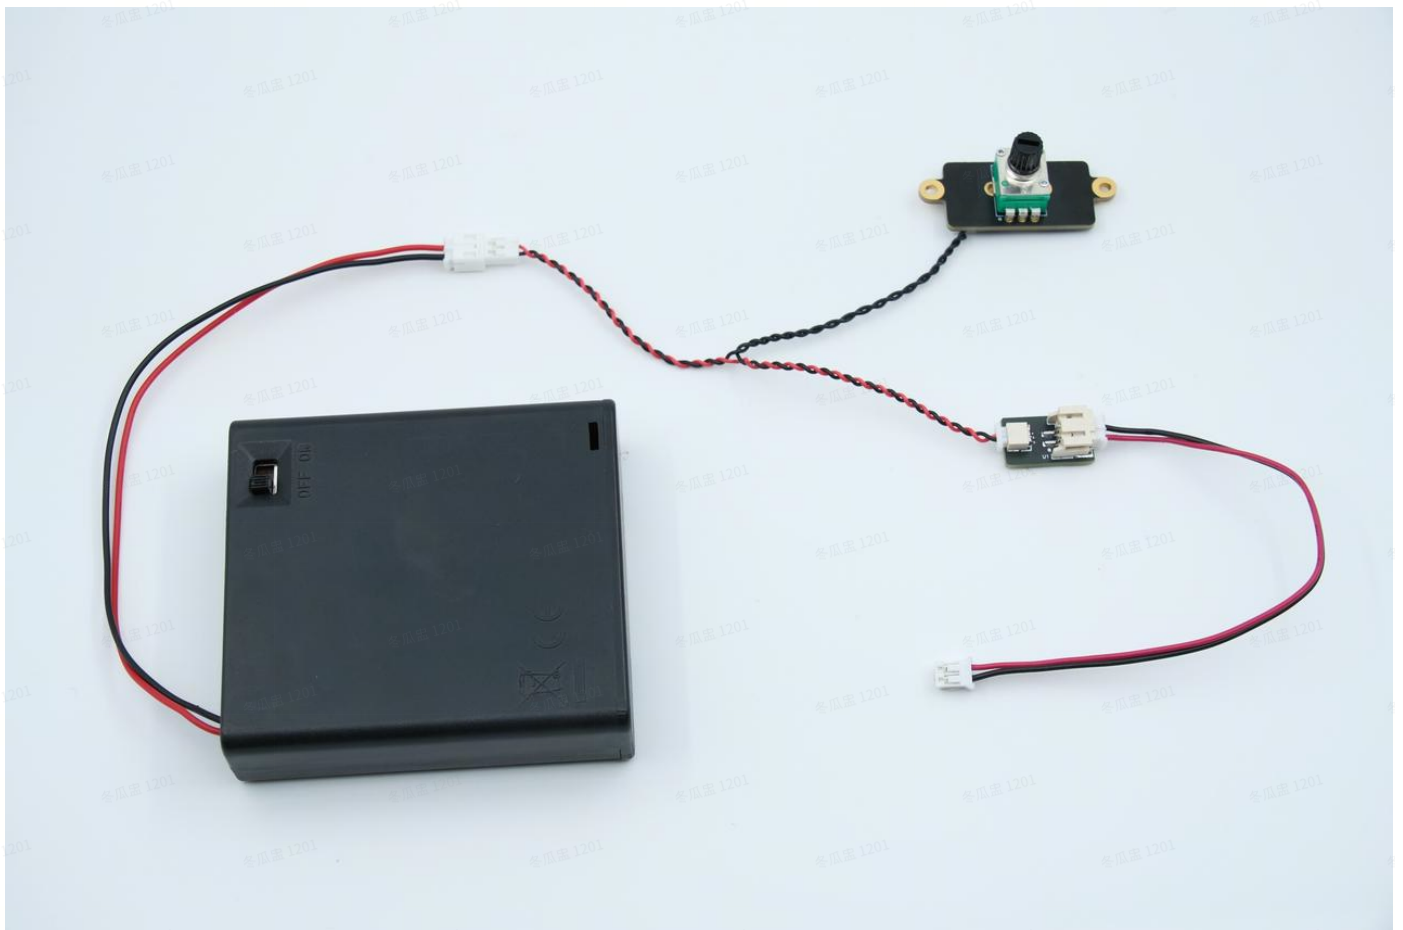

Figure 3
1. Connect the battery case, Y type conversion wire, adapter board and ph2.0 connection wire. (As shown in Figure 3) Note that the small port of the black wire of the Y-connection cable connects to the knob potentiometer, and the port of the red and black wires connects to the adapter board.